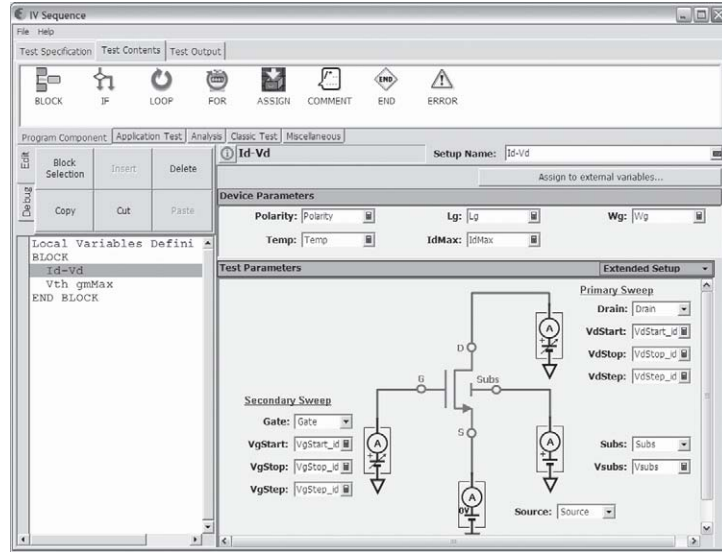

Figure 21. Test Component tab after the variable names from the main window have been inserted into the called application test.
- Highlight the line below which a component will be inserted (for example, the Id-Vd line highlighted in Figure 21).
In this example, the Id-Vd and Vth gmMax application test definitions are used and the components appear in the Application Test tab. The components are inserted between BLOCK and END BLOCK statements, as shown in Figure 21.
Figure 21 shows the finished application test window and Figure 22 shows the correspondence between the variable names of the